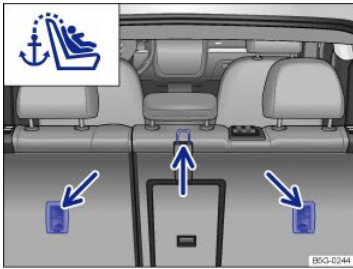

Fig. 83 Anchorages for the top tether strap on the back of the rear seat.
- Locate the tether anchor behind the rear seat backrest ⇒ Fig. 83.
- Attach the tether strap anchorage hook into the opening of the tether anchorage ⇒ Fig. 83.